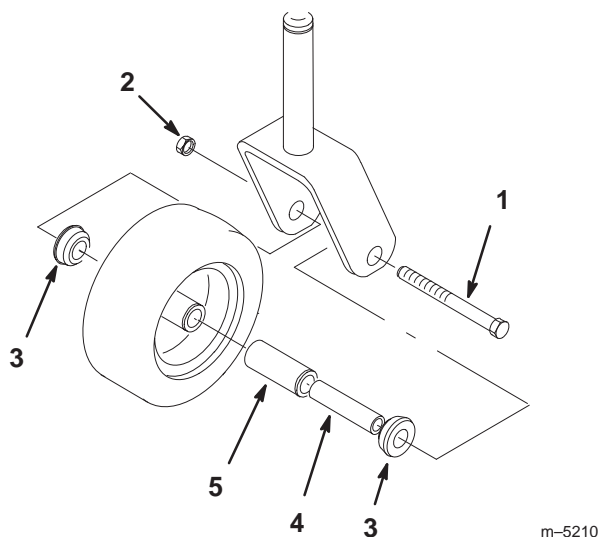

Figure 75
1. Remove the locknut and wheel bolt holding the caster wheel to the caster fork (Fig. 75).
2. Remove one bushing, then pull the spanner bushing and roller bearing out of the wheel hub (Fig. 75).
3. Remove the other bushing from the wheel hub and clean any grease and dirt from the wheel hub (Fig. 75).
4. Inspect the roller bearing, bushings, spanner bushing and inside of the wheel hub for wear. Replace any defective or worn parts (Fig. 75).
5. To assemble, place one bushing into the wheel hub. Grease the roller bearing and spanner bushing and slide them into the wheel hub. Place the second bushing into the wheel hub (Fig. 75).
6. Install the caster wheel into the caster fork and secure with the wheel bolt and locknut. Tighten the locknut until the spanner bushing bottoms against the inside of the caster forks (Fig. 75).